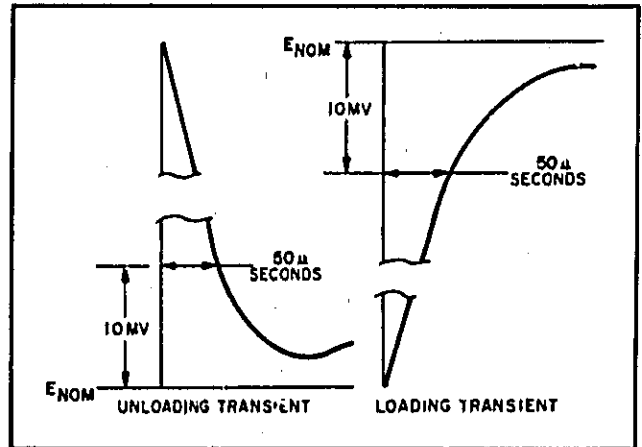

Figure 5-7. Transient Recovery Time, Waveforms
h. Starting from the major graticule division representative of time zero, count to the right 50µ sec and vertically 10mV. Recovery should be within these tolerances as illustrated in Figure 5-7.